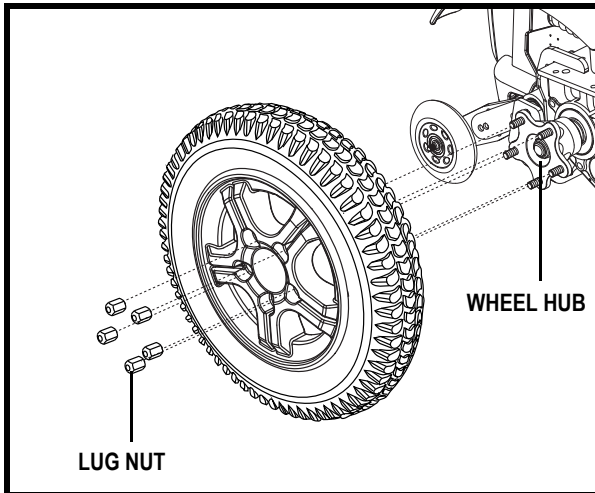

Figure 23. Quantum R-4000 Drive Wheel
4. Remove the five (5) lug nuts from the wheel hub. See figure 23.